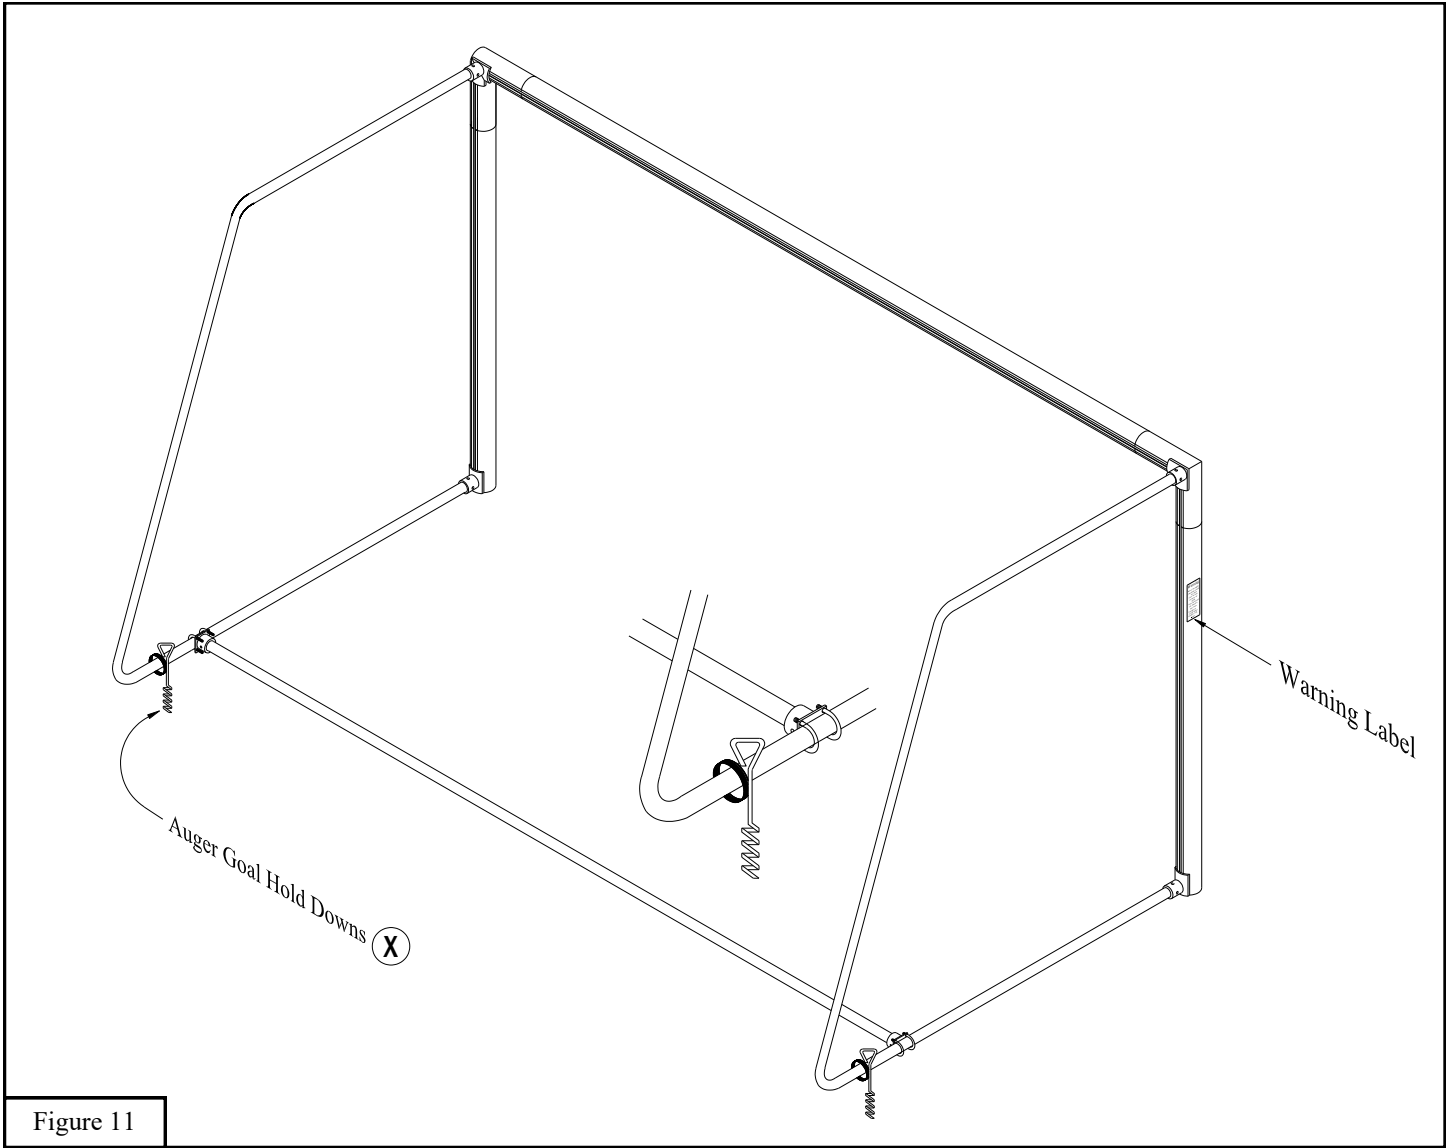

Figure 11
22. Prior to play, the rear of the goal must be secured to prevent accidental tip over. Bison No-Tip Goals, when sand is properly installed, satisfies ASTM F2950-14 Safety Standards. If your goal does not include the No-Tip rear ballast feature and is being used on natural turf, proceed to instruction #23 below. If the goal does not include the No-Tip feature and is being used on an artificial turf that is not compatible with the *Auger Style Hold Downs* (X), goals must be weighted with rear ballast bags or by other methods. Consult a Bison Product Specialist for options.
23. Position *Auger Style Hold Downs* (X) near the rear radius of the left hand and right hand backstays. Once the *Auger Style Hold Downs* (X) are fully rotated into the ground, clip the chain around the side of the backstays. See Figure 11.